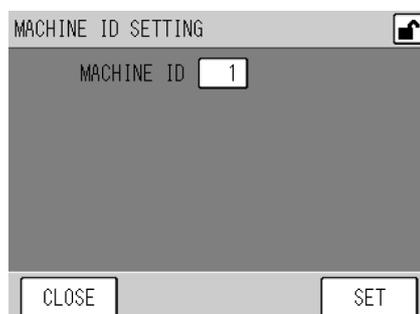

Fig. 86 MACHINE ID SETTING screen
- [MACHINE ID SETTING]: Displays the MACHINE ID SETTING screen (Fig. 86 on page 67).